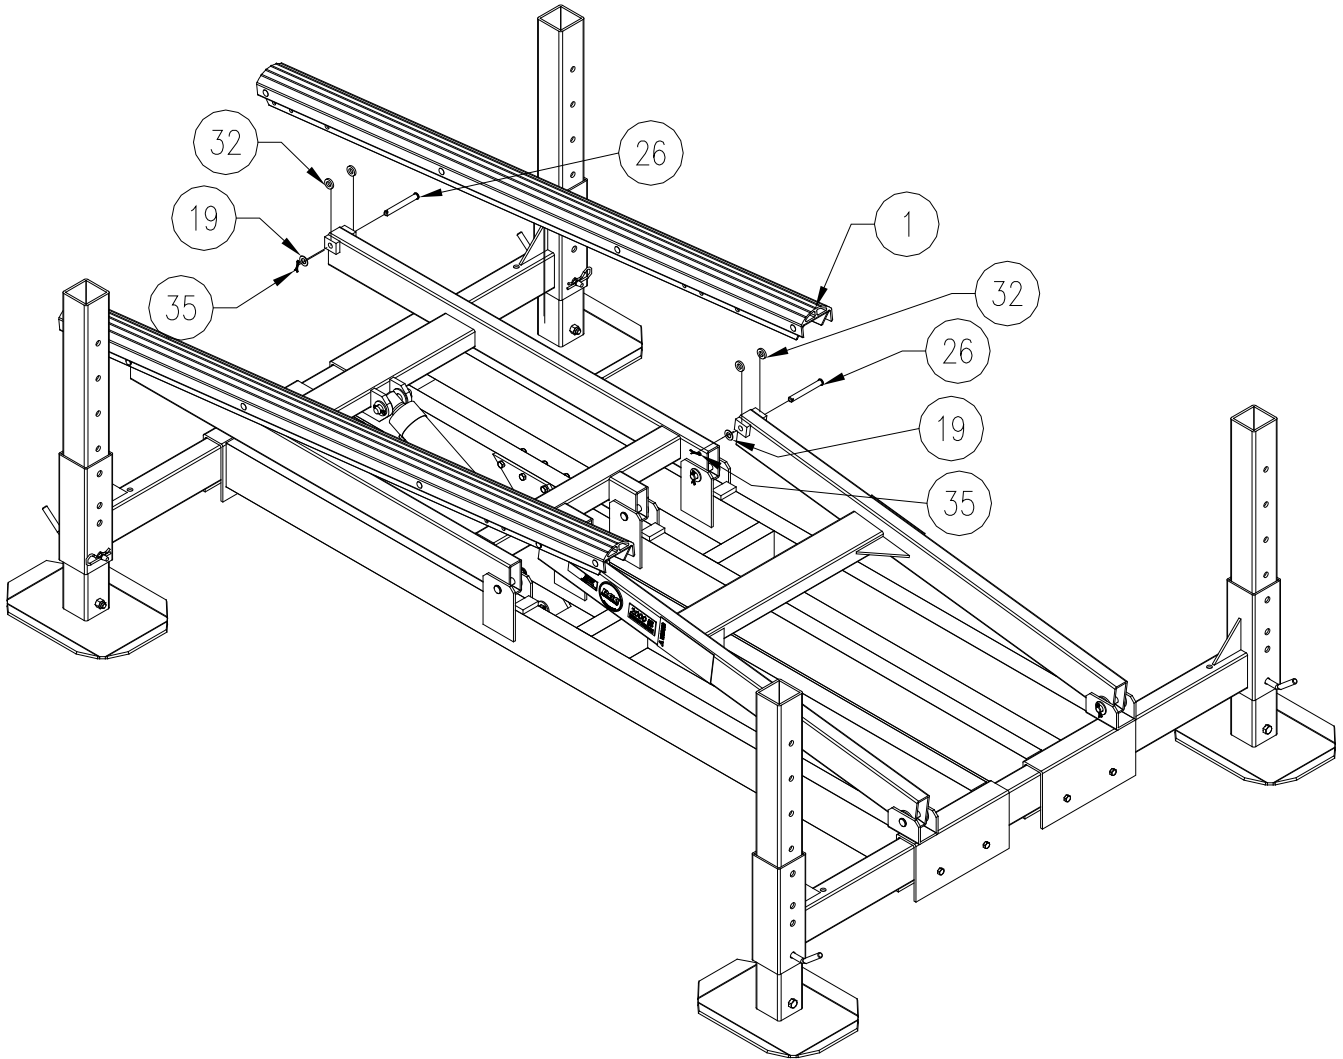

Figure 3-6.
1. **Refer to Figure 3-6.** Install aluminum bunk (1) to the lift arms. Position bunks so that the (2) 13/32 holes are at stern end of lift.
2. Insert clevis pin (26) through one side of the aluminum bunk. Insert nylon washer (9) between bunk and the lift arm. Finish inserting clevis pin through the lift arm. Insert another nylon washer (9) between the bunk and other side of lift arm before fully inserting clevis pin. Repeat for other end of bunk.
3. Install flat washer (19) and cotter pin (29) on each end of clevis pin (26). Secure clevis pin by spreading end of cotter pin apart and bending around clevis pin. Repeat for other end of bunk.